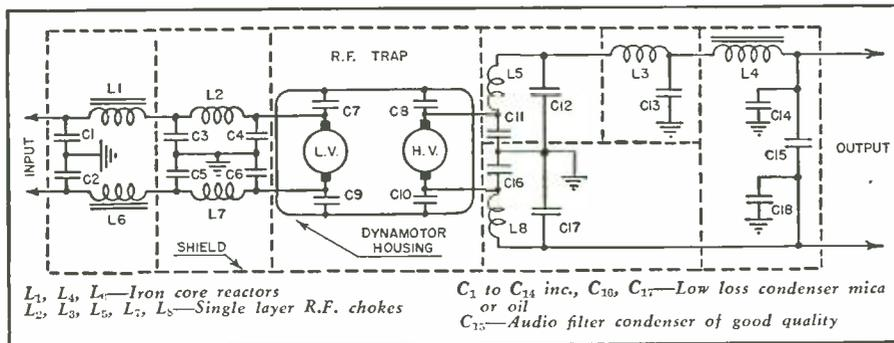
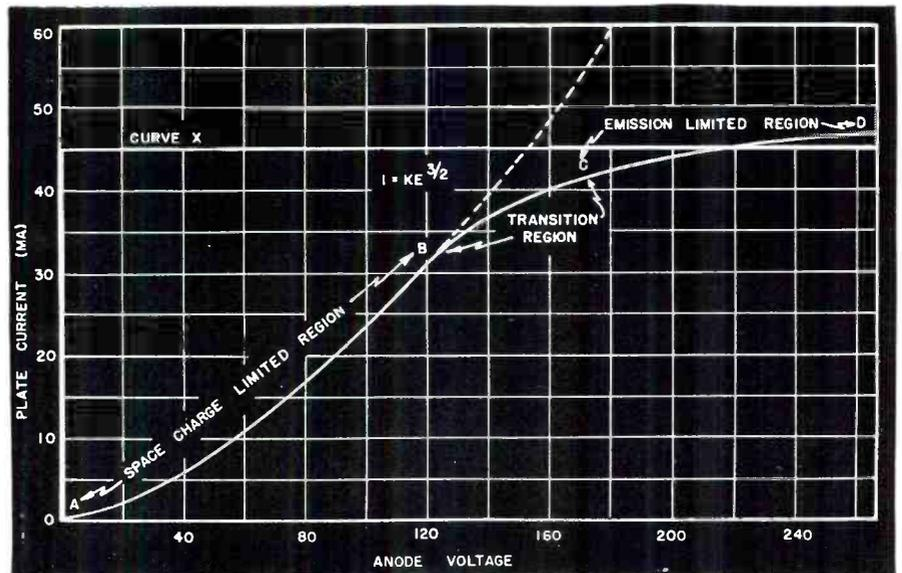

Fig. 1. Best ungrounded system.
Fig. 4.
**D**RAWINGS shown are intended to indicate a method of effectively filtering a dynamotor. Figure 1 and Figure 4 indicate respectively an ungrounded unit and a grounded unit. This type of filtering should be used for sensitive receivers or when exceptional filtering is desirable on a transmitter dynamotor. Fig. 2 and Fig. 3 indicate a less effective filter (ungrounded and grounded) al-
tential of the plate is varied, and the current for the different potentials noted, a curve similar to the one shown in Fig. 4 will be obtained on plotting the results. During this experiment the cathode temperature was maintained at a constant value. It might seem surprising at first that a curve such as this should be obtained since on first thought it would seem as though the plate would remove as many electrons from the cathode as the cathode emits as soon as the plate potential was a small positive value. It might be thought a curve similar to curve X of Fig. 4 would be obtained, but this is not the case.
When this point is reached there will be no further increase in plate current with an increase of plate voltage. This is represented by the section, cd, of the curve in Fig. 4. When there is an accumulation of electrons in the region of the cathode due to an insufficient rate of removal of electrons by the plate, the tube is said to be operating under a space-charge lim-
where I is the current flowing to the plate, K is a constant depending upon the shape and distance between electrodes, and E is the plate voltage. The first part of the curve shown in Fig. 4 is a graph of this equation and is shown continued by the dotted line. The flat part of the curve that depends upon the number of electrons the cathode will emit is determined by the temperature of the cathode, and is therefore governed by Richardson's